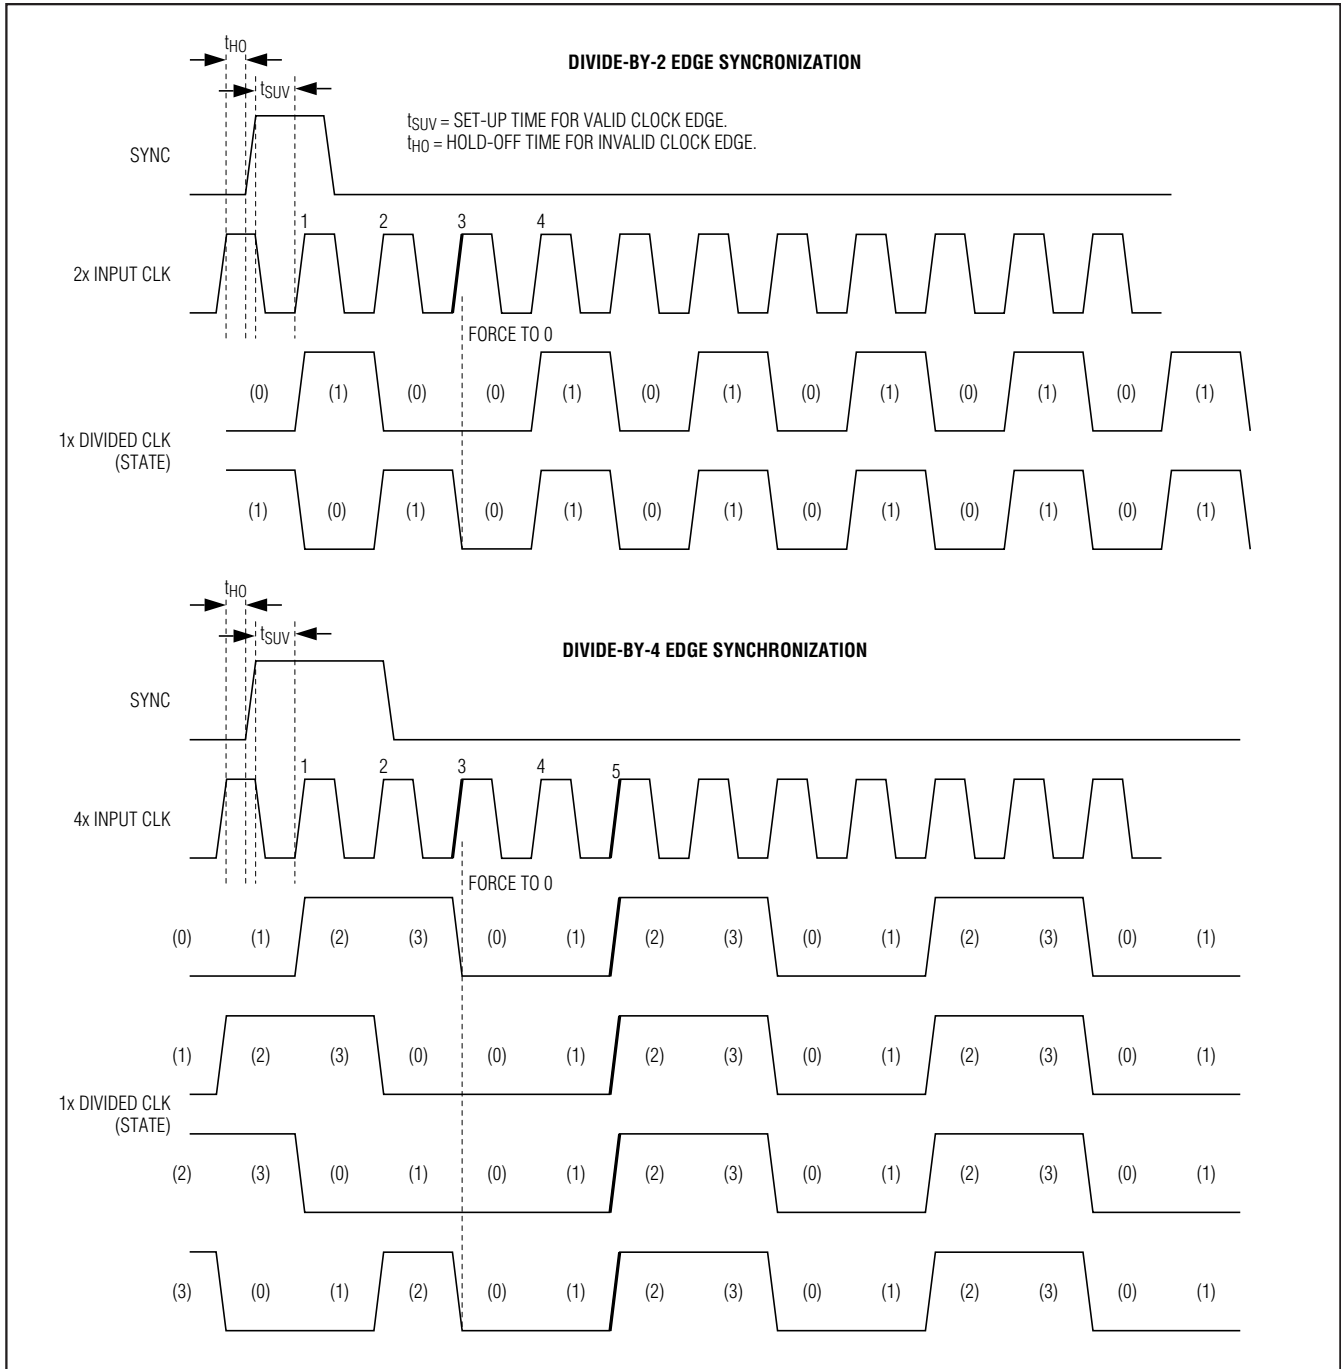

Figure 12. Edge Synchronization Mode
1 = Edge mode (Figure 12)
**Edge Synchronization Mode,  $SYNC\_MODE = 1$ :** On the third rising edge of the input clock (CLK) after the rising edge of SYNC (provided set-up and hold times are met), the divided output is forced to state 0. A divided clock rising edge occurs on the fourth ( $/2$  mode) or fifth ( $/4$  mode) rising edge of CLK, after a valid rising edge of SYNC (Figure 12).